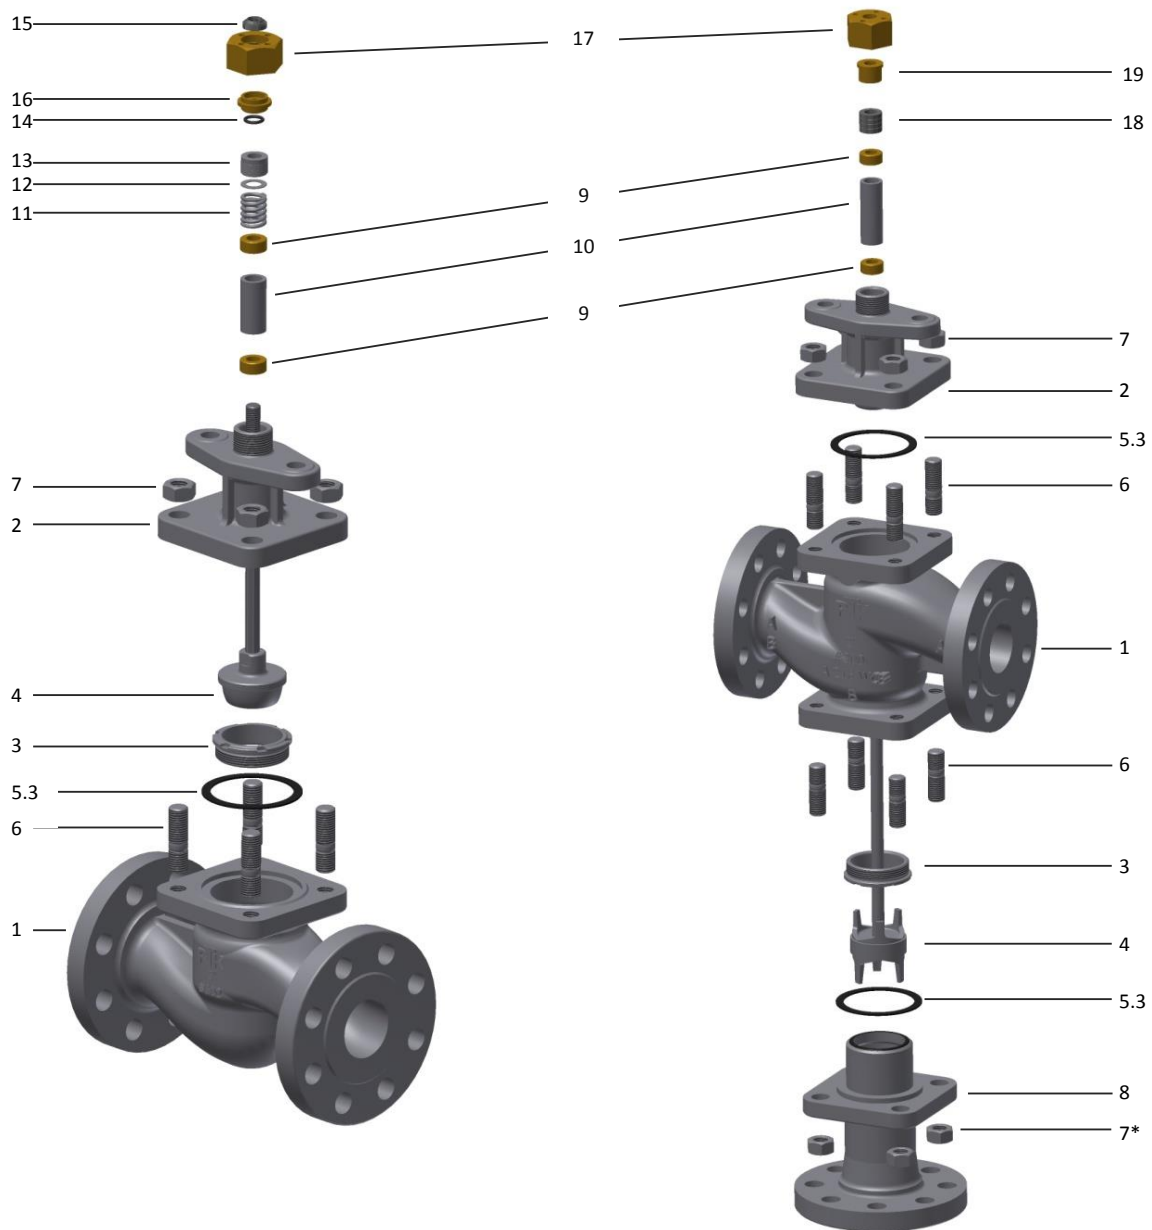
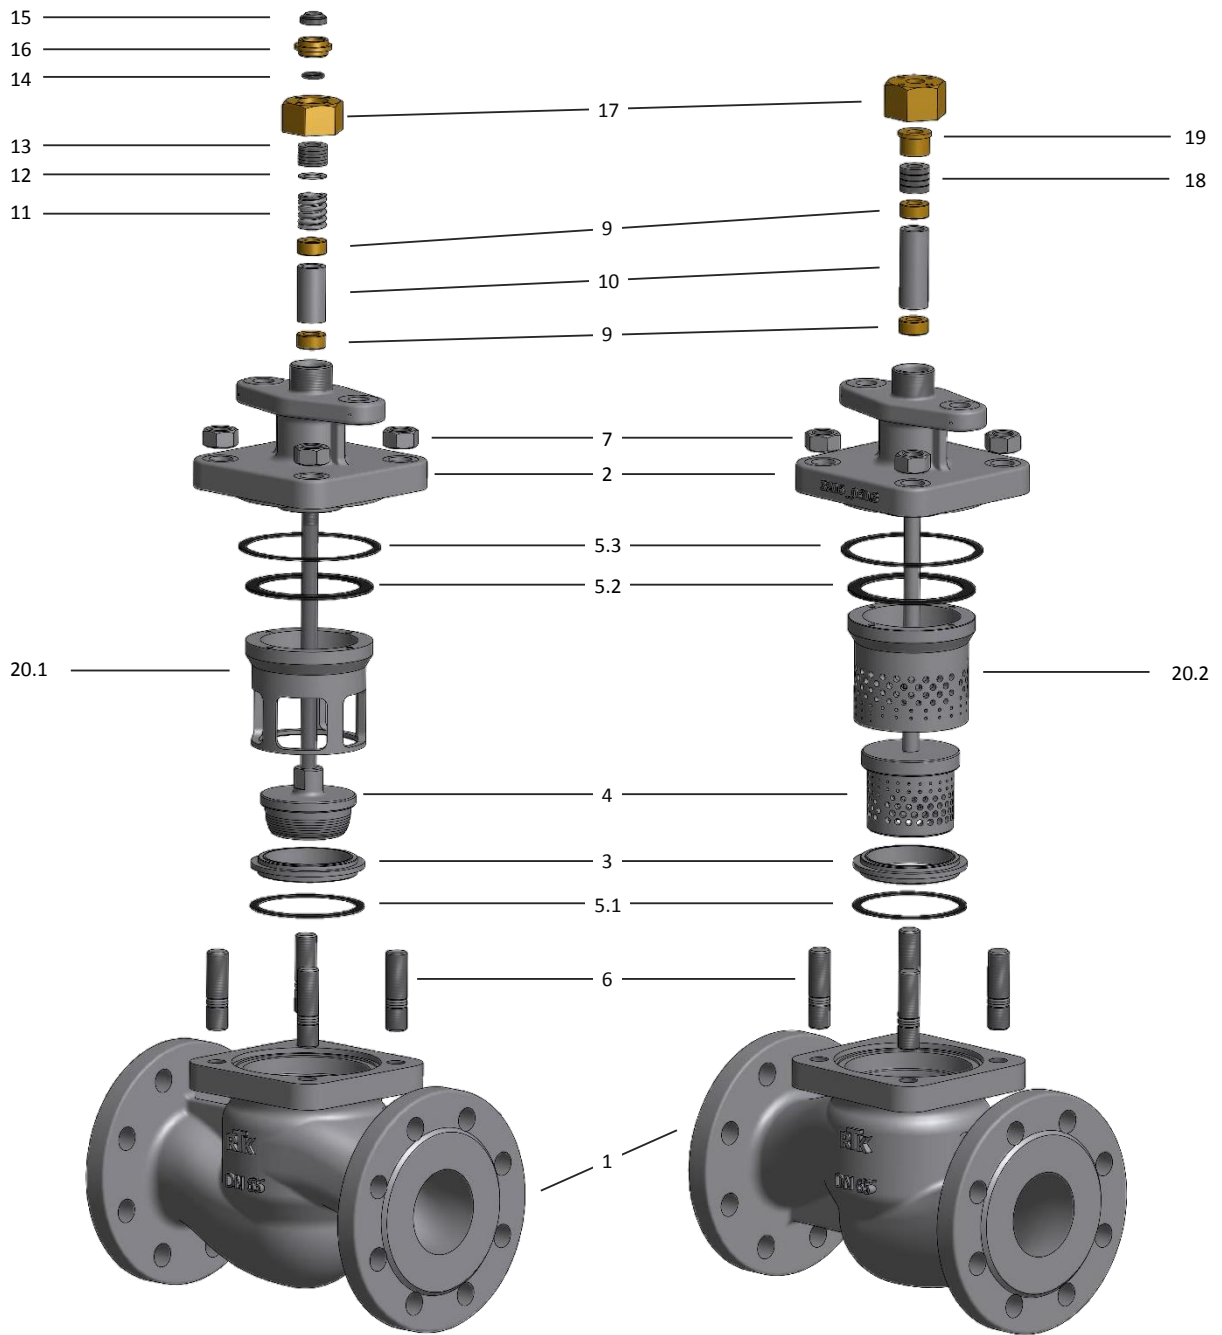

Figure 3: Typical component overview of 2-way (PTFE/Graphite packing) and 3-way (Graphite packing) valve
Figure 4: Typical component overview of QCS 1-stage (PTFE/Graphite packing) and 2-stage (Graphite packing) valve
To disassemble the valve refer to Figure 3, Figure 4, and Table 3 then proceed as follows in the subsections. After all parts have been removed clean them thoroughly with solvent, polish the plug stem with a fine aluminium oxide cloth to remove any foreign particles and/or burrs that may be on the stem. Any worn or damaged parts must be replaced. Be sure all gasket seating areas are clean and smooth.
Remove the bonnet nuts (7) and lift the bonnet (2) straight up until it clears the valve plug stem (4). Being careful not to damage the stud (6) threads and stem thread. Take out the plug (4) and remove the bonnet gasket (5.3) (refer to Figure 3, left).
Remove the bonnet nuts (7) and lift the bonnet (2) straight up until it clears the valve plug stem (4). Being careful not to damage the stud (6) threads and stem thread. Take out the plug (4), remove the bonnet and retainer gasket (5.2 and 5.3). Extract the retainer with the help of the 4 holes on top. Take out the seat ring (3) and the seat ring gasket (5.1) (refer to Figure 4, left).
Remove the bonnet (2) and gasket (5.3) as described in section 7.2.1, then remove the B-flange nuts (7*) and remove the B-flange (8). Then carefully take out the plug (4) and remove the bonnet gasket (5.3) (refer to Figure 3, right).
Remove the nuts (7), the bonnet (2), the plug (4) and the gasket (5.3) as described in section 7.2.1. The B-flange (8) can be disassembled as described in section 7.2.3 (refer to Figure 3).
Remove Clamping Nut (17) then push out the stem packing components (guide bushing (9), spacer (10), spring (11), washer (12), packing rings (13), O-ring (14), wiper ring (9) and packing follower (23)) from the underside of the bonnet (Item 2 of Figure 3). Keep the spacer (10) in a safe place, this must be re-used **It is not part of the replacement packing set.**
Clean inside of the bonnet and the stem as described in section 7.2. Then insert the plug into the seat and install the bonnet onto the valve body using a new bonnet gasket (Item 5 of Figure 3).